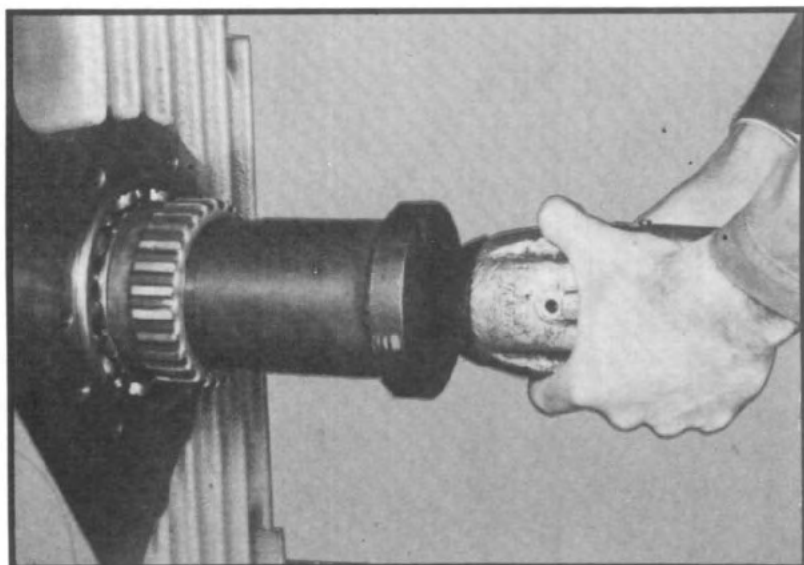

Fig. 71
- 3.19 Remove special nut from inside of clutch gear with special wrench (See tool reference, Section X and fig. 71.) and remove clutch gear from lower shaft.